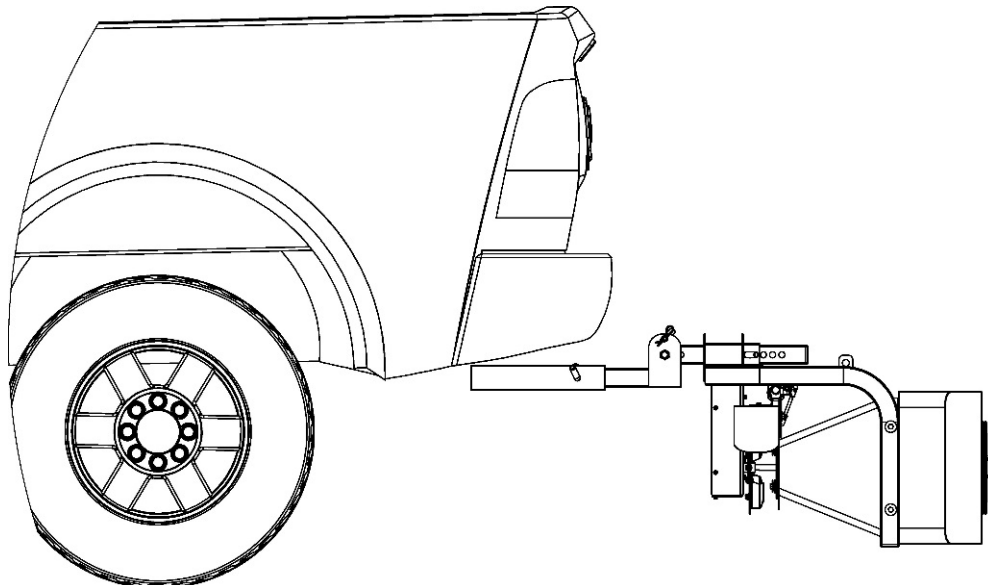

FIGURE 18.1
- Unlatch both secure straps and **CAREFULLY** unpin and lower Spreader Assembly as shown in **FIGURE 18.1**. for ease of cleaning hopper.